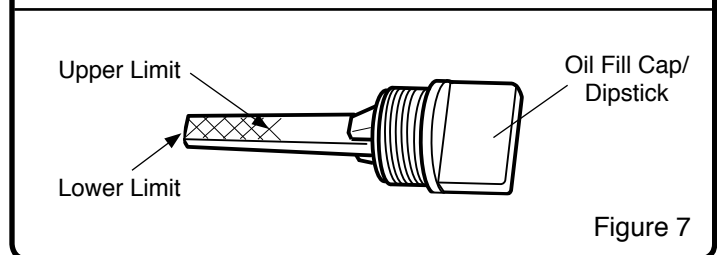

Figure 7
4. When oil level is full, the oil will be at upper limit on dip stick. If oil level is near or below the lower limit, oil must be added. (See Figure 7)